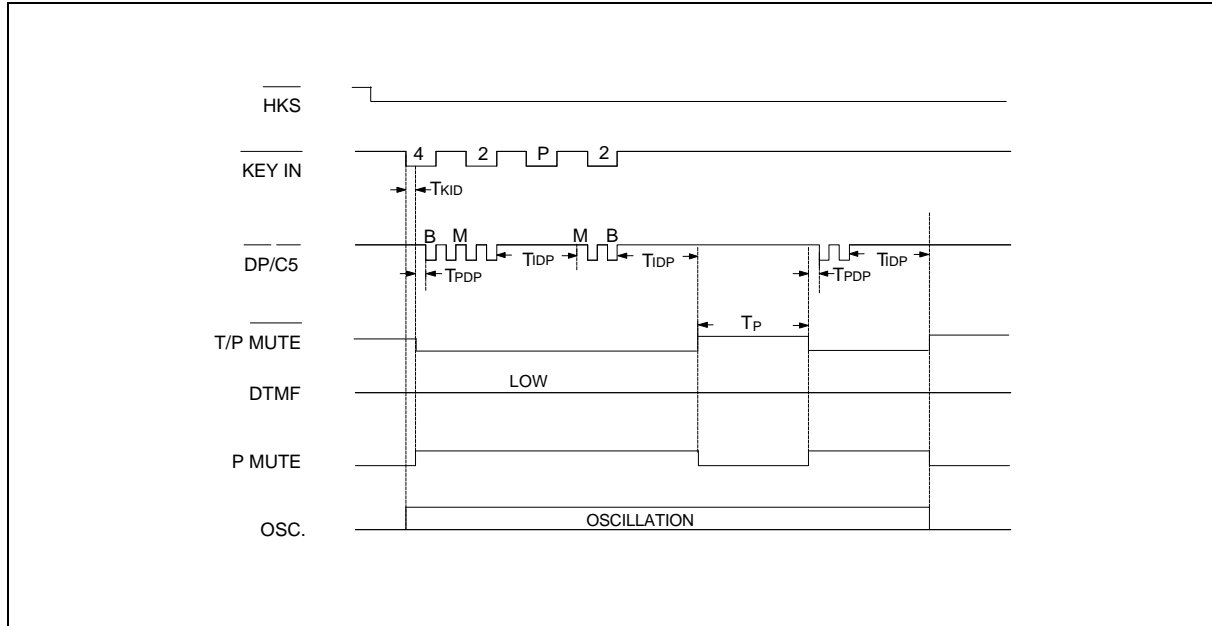

Figure 3. Pause Function Timing Diagram
5. The pause function timing diagram is shown in Figure 3.